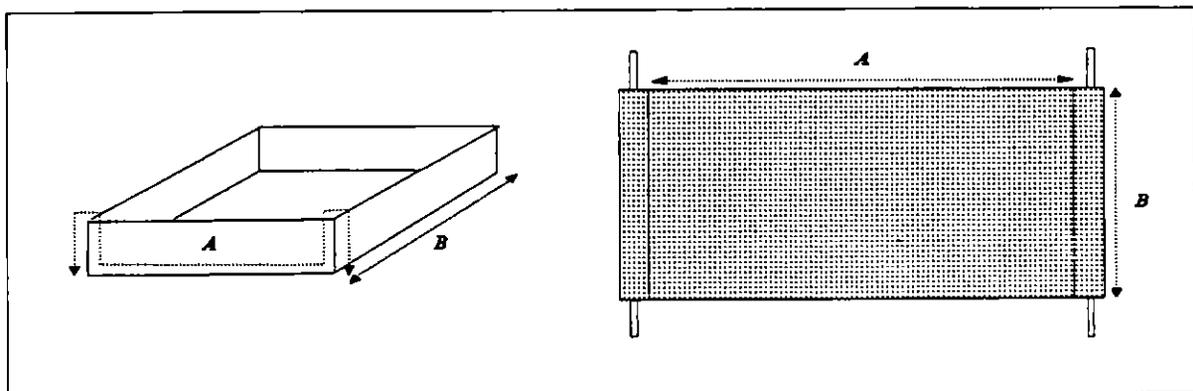

Figure 1
Because the dowels restrict the degree to which the screen can be manipulated to fit into a tray, it is best to design the screen to fit into a particular tray. Lengthways the piece of screening should cover the bottom width as well as inside and outside sides of the tray with an additional 13 cm or so at each end for the sleeves (A) (Fig. 1). The width of the screening should be slightly shorter than the bottom inside length of the tray (B).